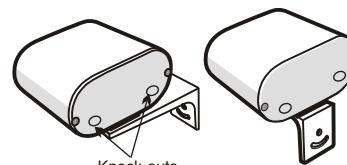

Fig. 4
- 3.) Remove a knock-out from the infrared sensor/transmitter back plate to feed the power wires thru (Refer to Fig. 4 ).